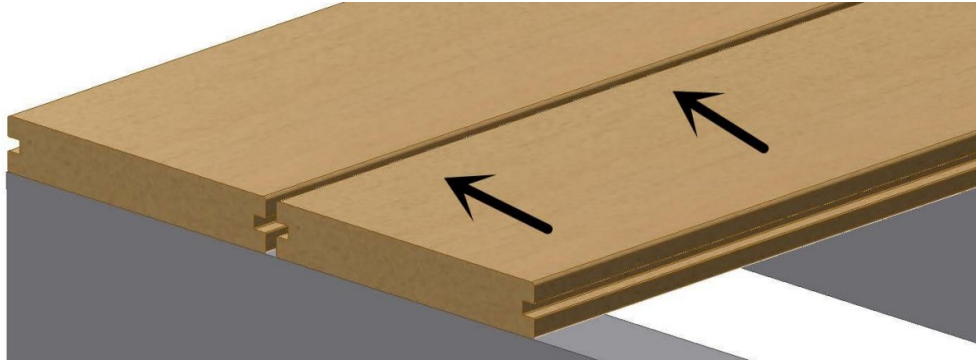

Figure 4
1) Put the boards in position. (Figure 4)